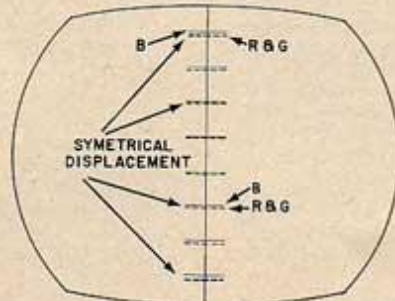

Fig. 2C. Symmetrical displacement of horizontal lines on vertical axis
- d.*—Adjust blue vertical tilt, VR-3B, for symmetrical displacement of the blue horizontal lines from the red and green horizontal lines where they cross the center vertical line. See figure 2c.